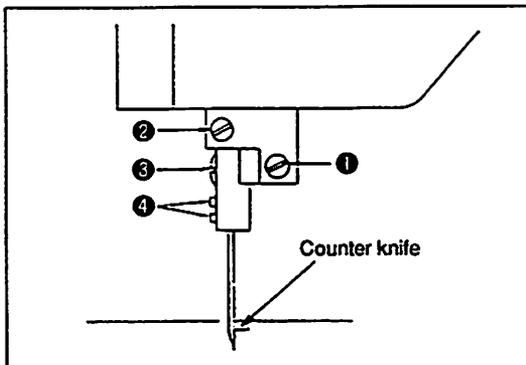

Fig. 94
Loosen screw ③ in Fig. 94, and remove the center knife.
Loosen screw ④ in Fig. 94, and attach the center knife. At this time, push the center knife to the base until it will go no further and fix at that position.
(10) Position of the thread tension release rod